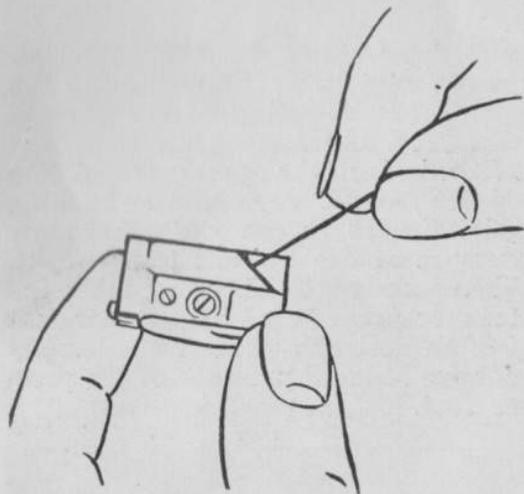

FIG. 6
b. Using the right hand, draw the thread into the slot in the edge of the bobbin case, as shown in fig. 6.